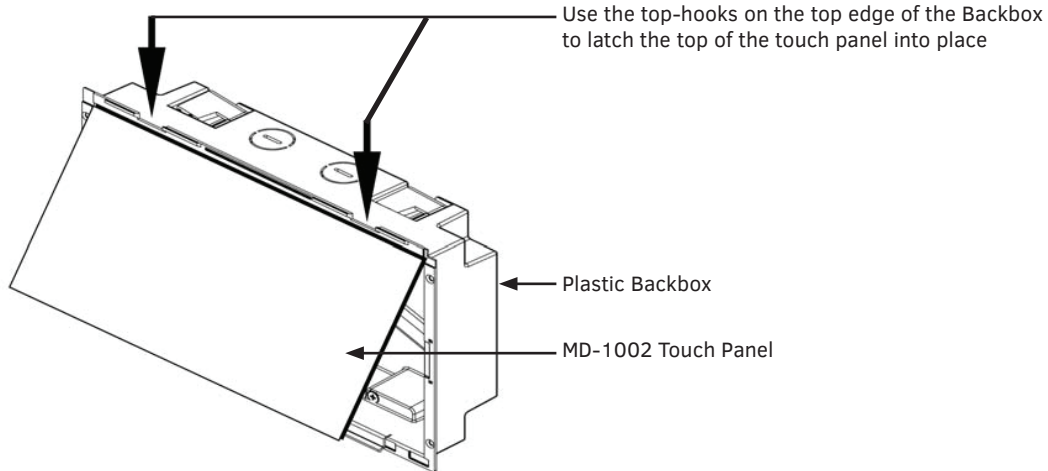

FIG. 27 Engaging the top edge of the panel with the top hooks on the Backbox
1. Center the top edge of the touch panel against the upper outside edge of the Backbox and latch the top of the panel onto the Backbox top-hooks (FIG. 27):